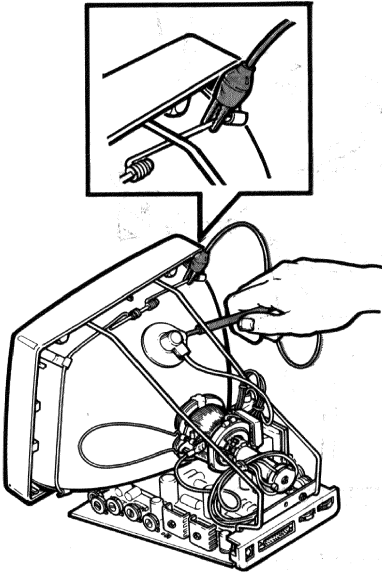

Figure 4-3 Discharging the CRT Anode
- a. Clip the anode discharge tool to the wire frame of the monitor assembly as shown in Figure 4-3.
- b. Slide the tip of the anode discharge tool or test probe under the rubber boot as shown in Figure 4-3. Hold for a full 3 seconds.